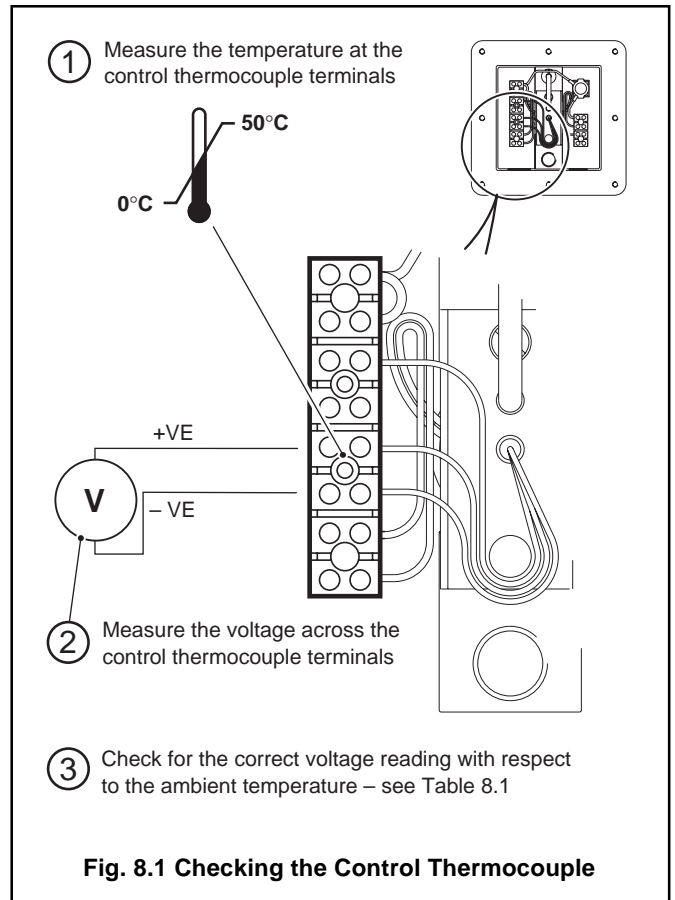

Fig. 8.1 Checking the Control Thermocouple
8.1.1 Checking the Control Thermocouple – Fig. 8.1
b) Check the control thermocouple voltage as shown in Fig. 8.1. The measured voltage must be within  $\pm 0.1\text{mV}$  of the voltages listed in Table 8.1.